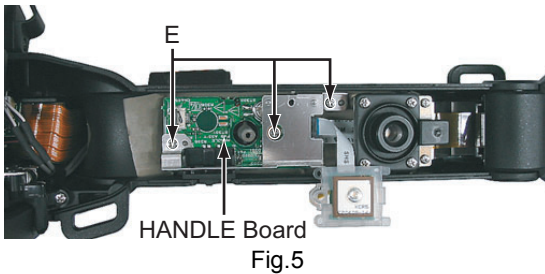

Fig.5
3.1.2 Removing the R side cover assembly (See Figure 5, 6, 7 and 8)